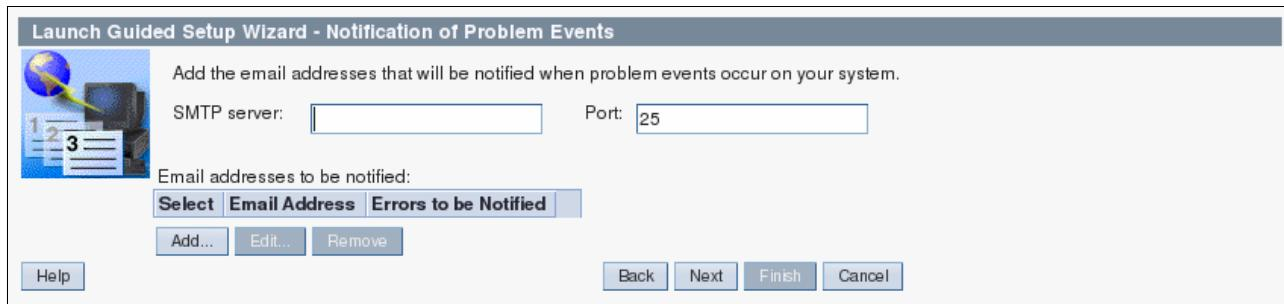

Figure 3-103 SMTP server setup
32. Although you can set an SMTP server according to your own environment, here in the notification of problem events panel (Figure 3-103), in this example, do not set an SMTP server. Click **Next**.